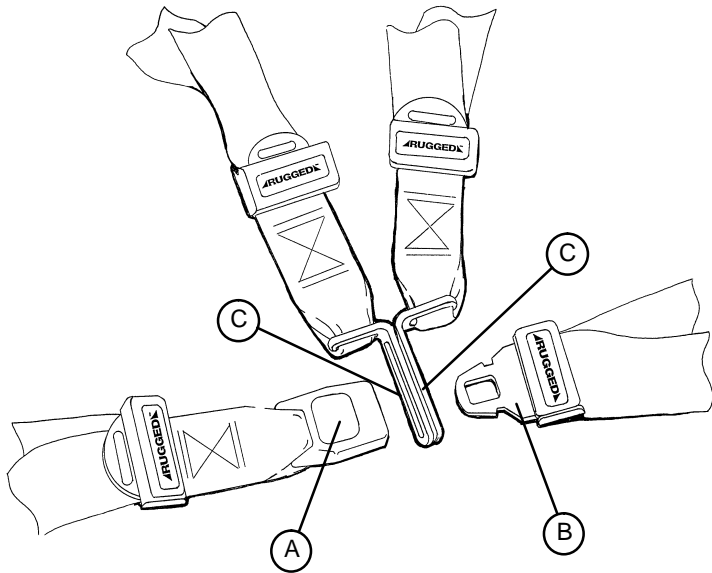

Figure 10 - Buckling the Restraints
To open the restraint, press the red button (A) on the front of the buckle "receiver". This releases the buckle "tang" (B) which can then be pulled out of the receiver (Figure 10).
To close the restraint, push the tang into the receiver until a "click" is heard. When fastening the chest restraint be sure the tang passes through both links (C) on the shoulder strap (Figure 10).